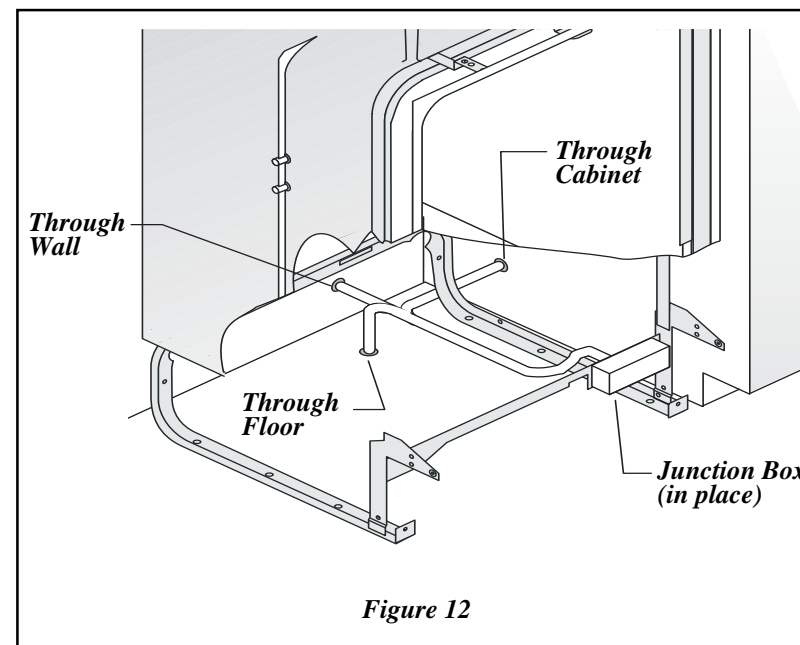

Figure 12
1. Remove junction box cover and pull house wiring into junction box. See **Figures 12 and 13**.